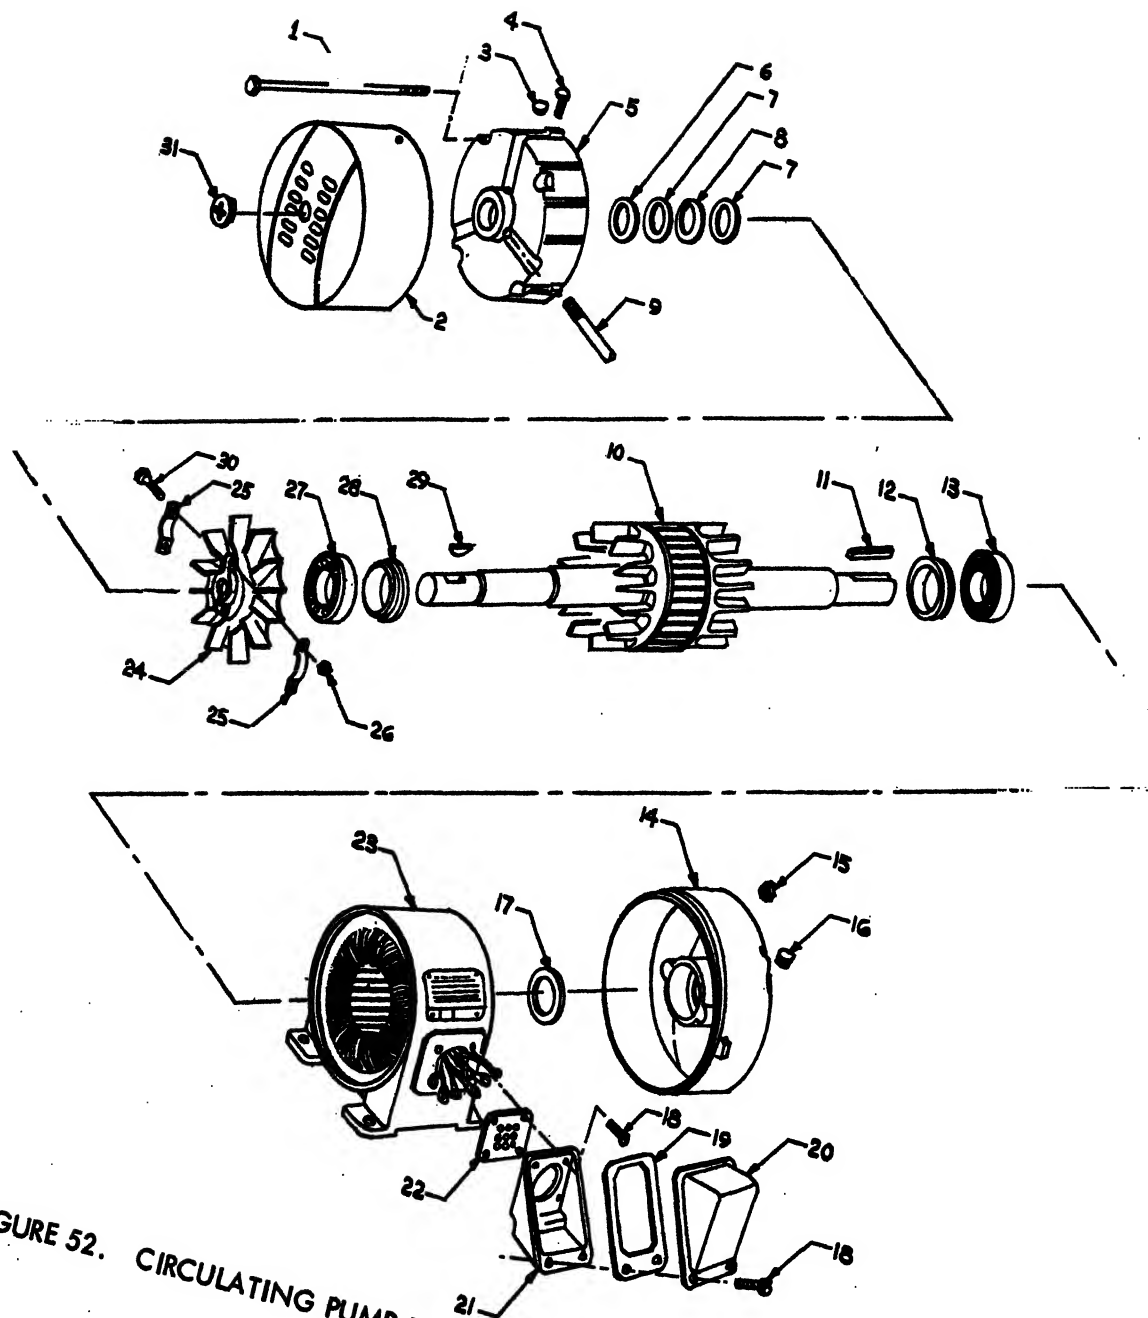

FIGURE 52. CIRCULATING PUMP MOTOR ASSEMBLY AND DISASSEMBLY
- b. Disassembly. Refer to Fig. 52 and disassemble the circulating pump motor.
- a. Reassembly. Refer to Fig. 52 and assemble the circulating pump motor.
LEGEND FOR FIGURE 52